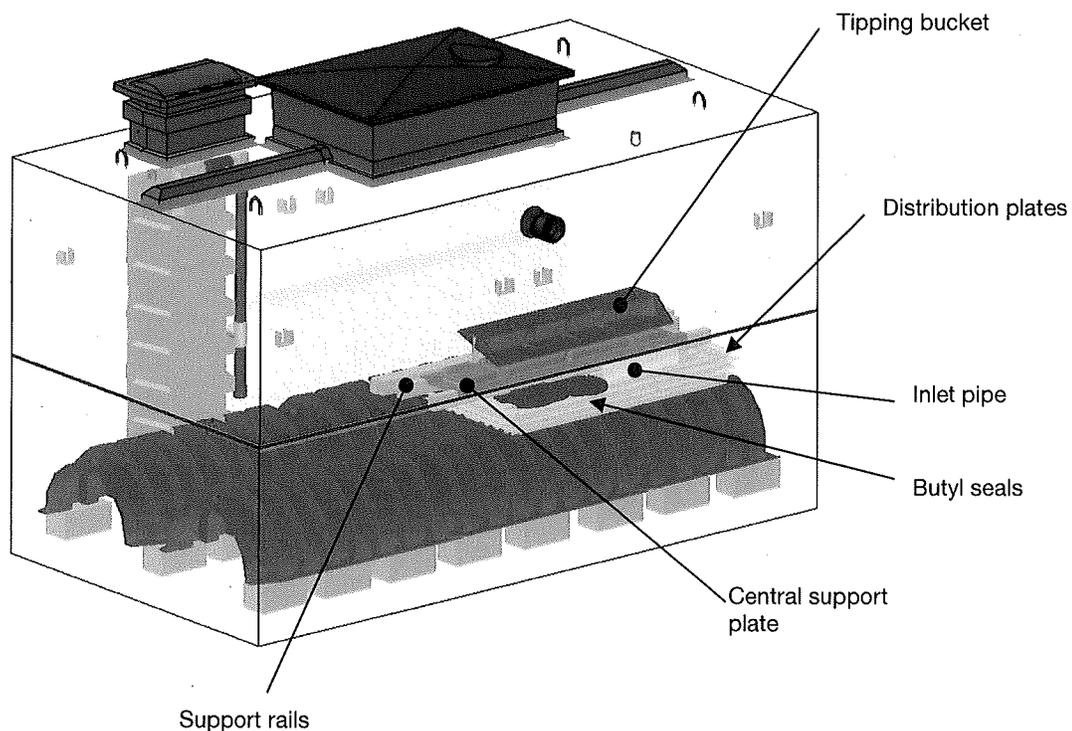

Figure 27
3.1 Verify that you have all the components indicated in Table 3 and Figures 27.
- 3.2 Put the components inside the concrete tank as illustrated on Figures 27.